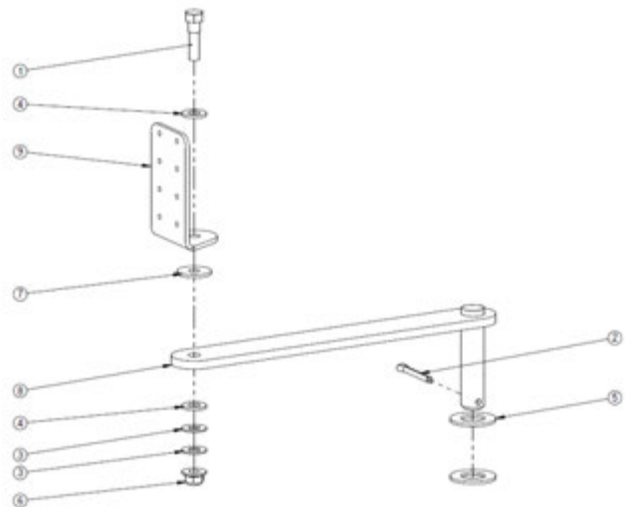

Figure 3: Install the display holder
- a. Fasten the new extended display holder (9) onto the scale head mount arm (8), using the previously removed hardware; see **Figure 3**.
- i. Install the spring washers (3) with the concave side facing inwards.
- ii. Tighten the nut (6) as required to achieve the desired friction. Over tightening will prevent rotation of the scale head.